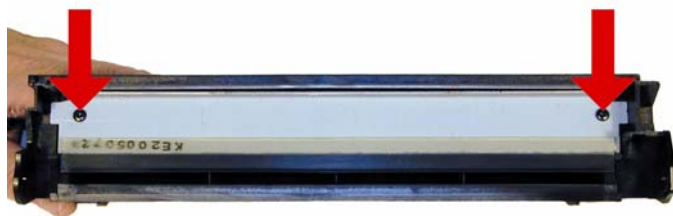

Figure 21
18) Remove the two screws on the wiper blade. Remove the blade. See **Figure 21**.